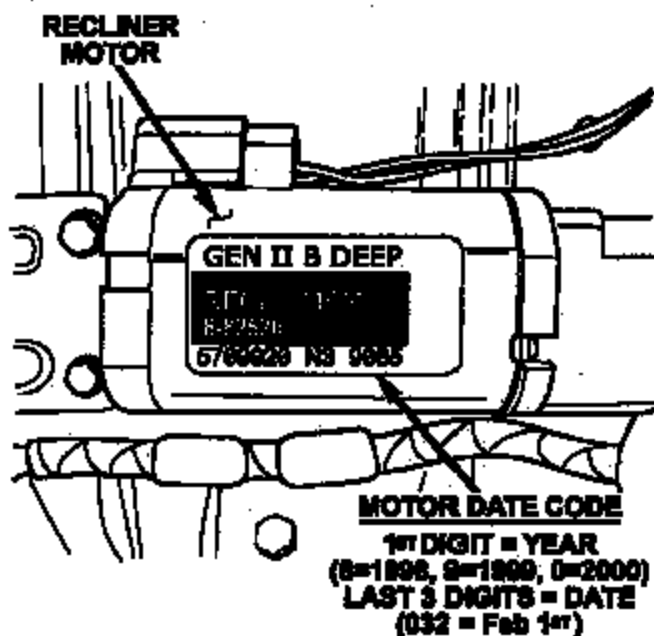

Figure 4 – Memory Seat Recliner Motor Shown
2. Remove the two (2) rear driver's seat anchor bolts.
4. Remove the two (2) front driver's seat anchor bolts.
7. Inspect the date code on one of the seat adjuster motors (Figure 4) to determine the correct repair package part number as some seat adjuster assemblies may have been previously replaced.